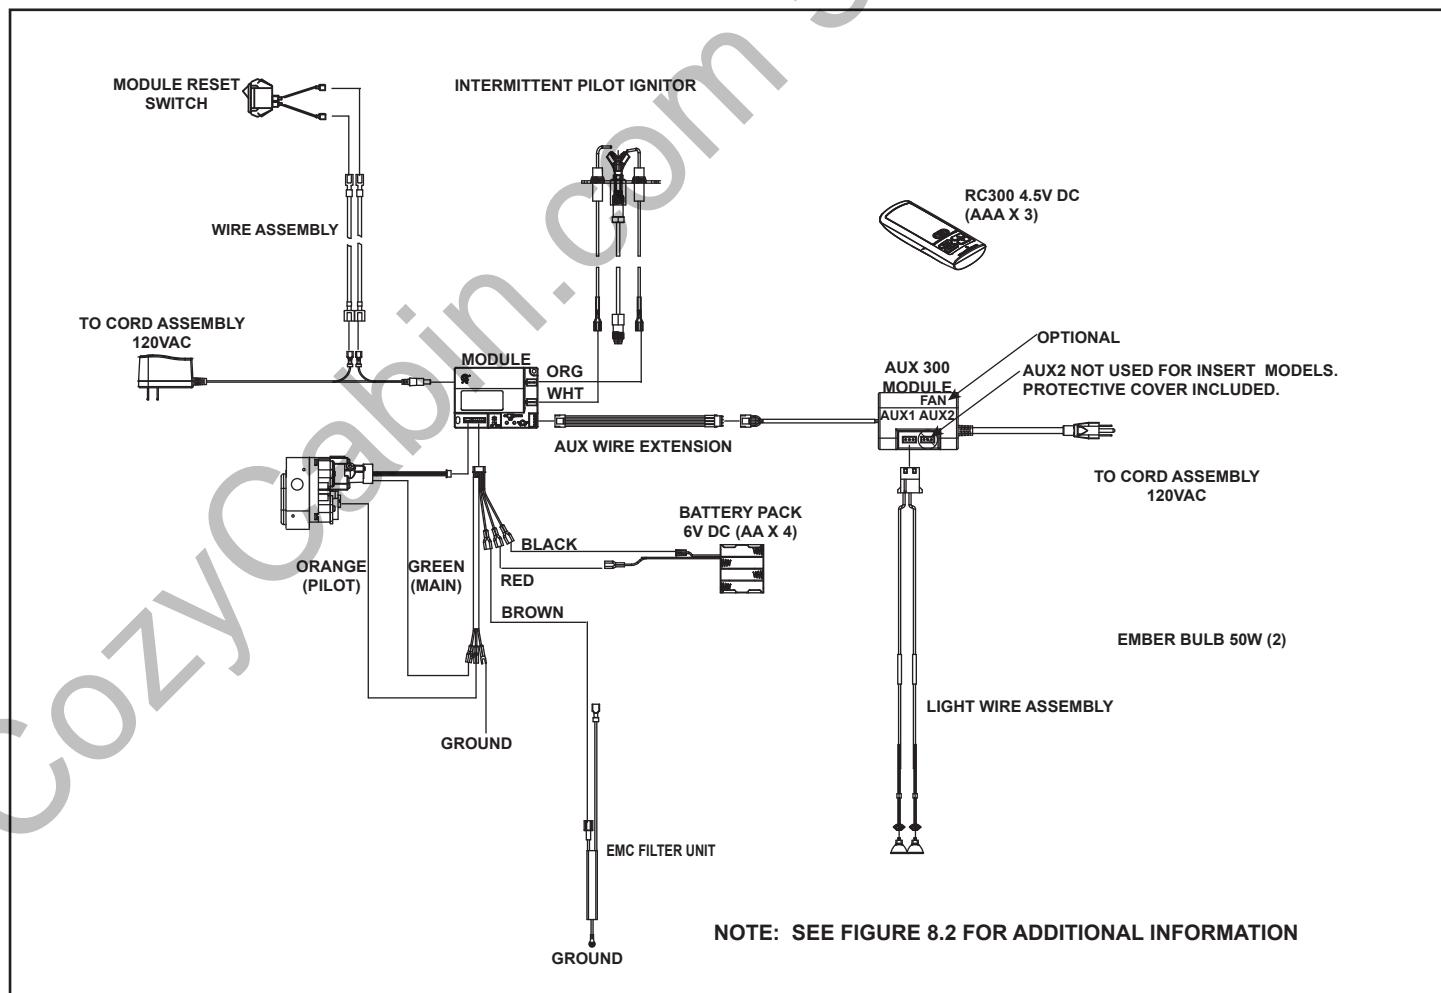

Figure 8.1 Intellifire™ Plus Pilot Ignition (IPI) Wiring Diagram
- Refer to Figure 8.1, IPI Plus Wiring Diagram.